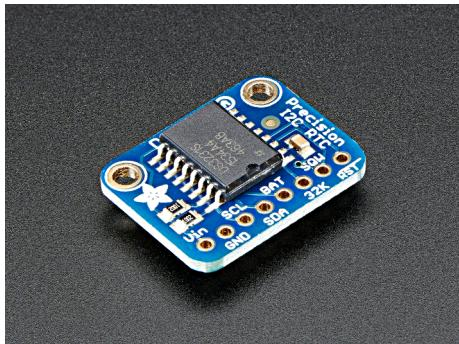

Figure 44: The DS 3231 hardware clock from Adafruit. Photo taken from www.adafruit.com.
- A DS 3231 precision hardware clock from Adafruit; this is a battery powered clock featuring temperature compensation. Fig. 44 shows this component which is about 15 €. A CR1210 battery is also needed.